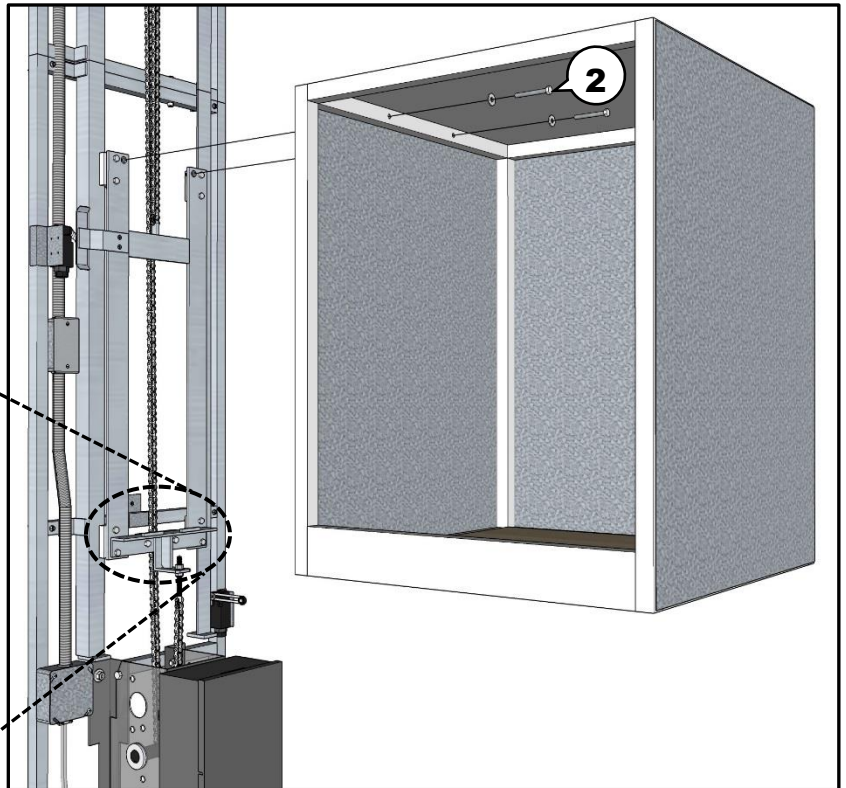

Figure 21
- 2** Use provided bolts ($\frac{1}{4}$ "-20 x $1\frac{3}{4}$ ") & washers to secure dumbwaiter car to trolley. (see Figure 21)